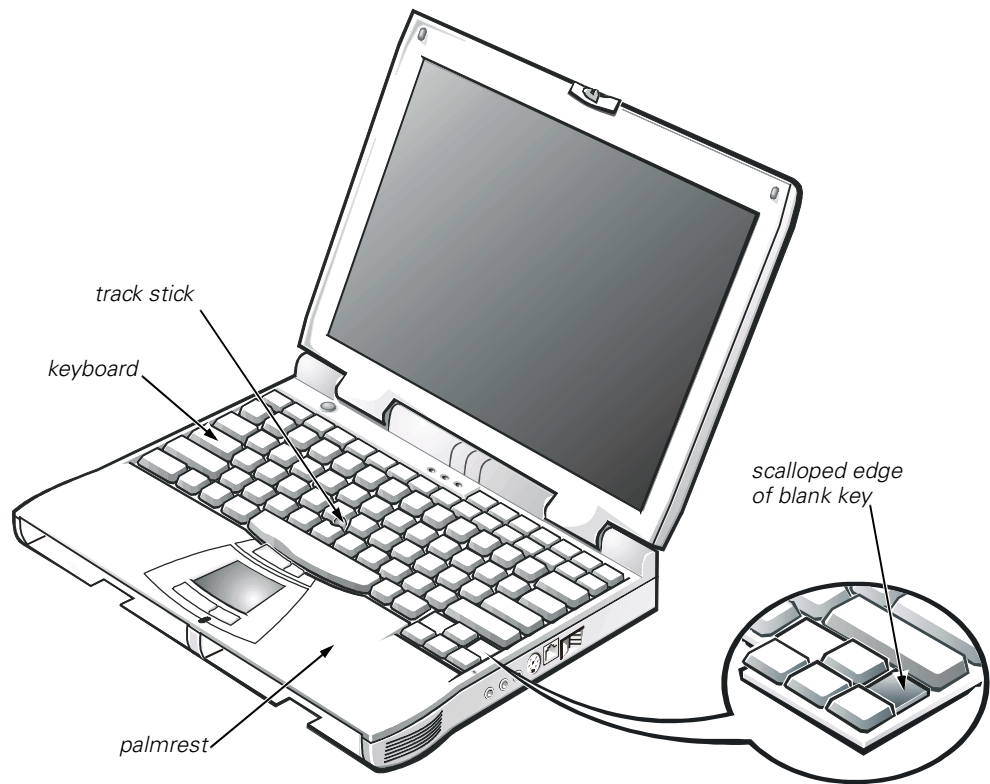

Figure 10. Keyboard Assembly Removal
5. Release the keyboard from the palmrest assembly by inserting a small flat-blade screwdriver under the edge of the blank key (see Figure 10), and lift the right edge of the keyboard.